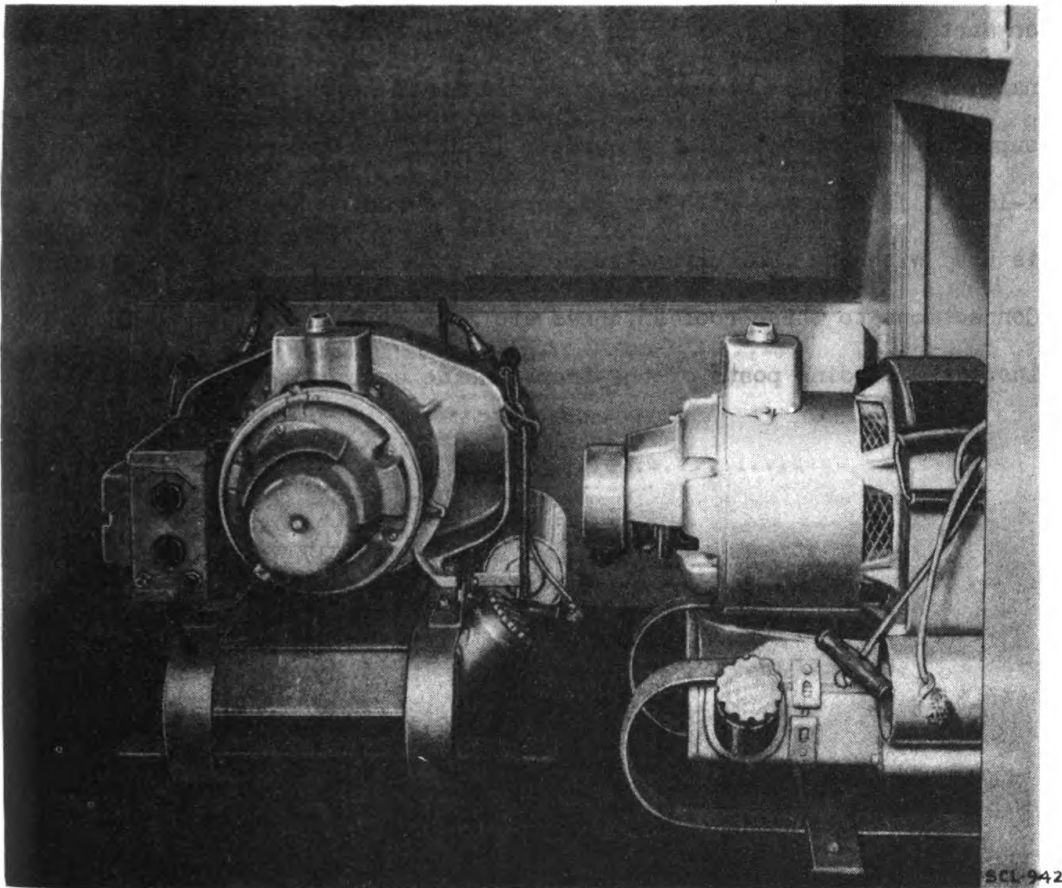

Figure 7. - Method of Mounting Power Units PE-75-(*) in the rear compartment of Trailer K-19-(*).
d. Power Unit PE-75-(*). - Two Power Units PE-75-(*), are provided and are carried in the rear compartment of the trailer. (See Fig. 7.) They supply a-c power for Trailer K-19-(*), when commercial power is not available. Normally only one of these units is required; however, in extremely cold weather when it is desired to operate both electric heaters as well as a-c equipment in the trailer, it is necessary to use both units. Full information concerning Power Unit PE-75-(*), is contained in TM 11-900.